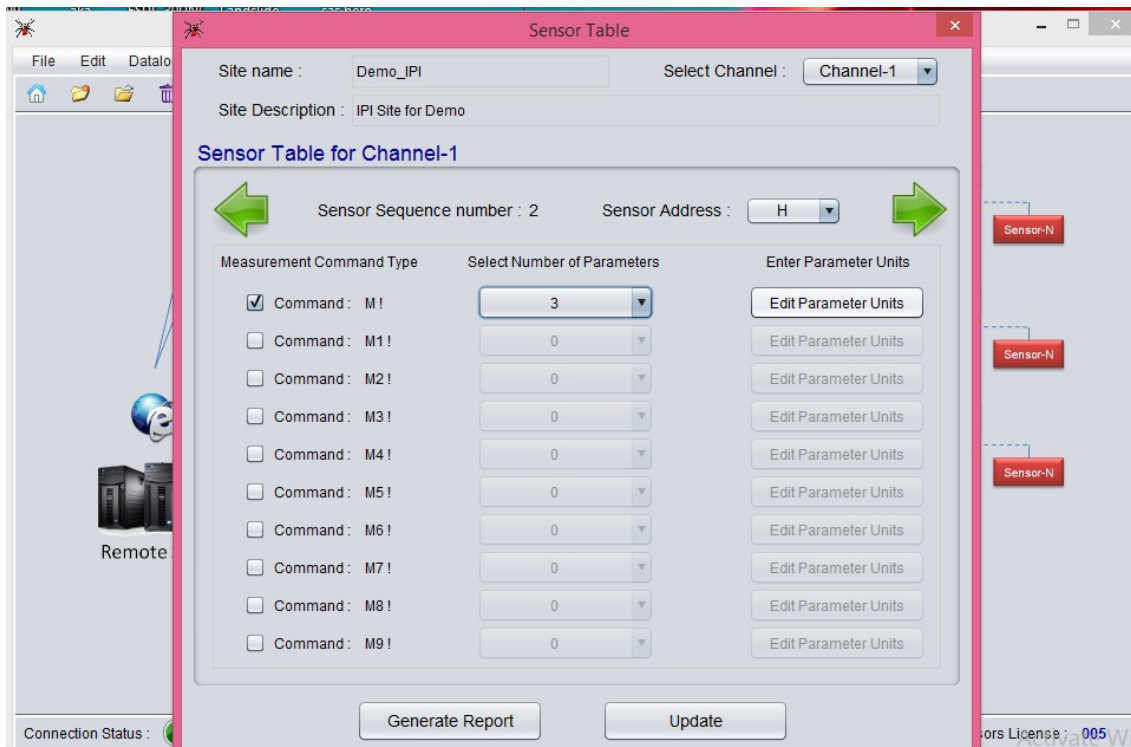

Figure 35 Selecting next sensor to be programmed in Sensor Table window
- 18 Click  (figure 35) to define the parameters of next sensor connected and repeat the steps mentioned in Point no. 13 & 14 and so on. After defining parameters for all the sensors connected to the Datalogger, click “Update” button.